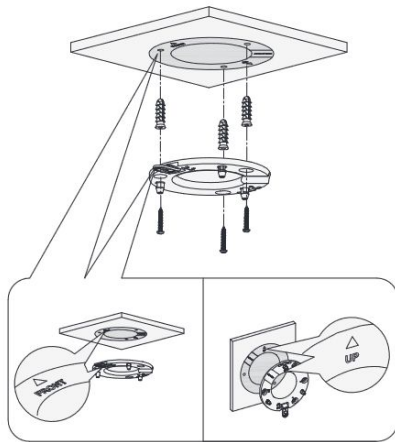

Figure 2-2
Step 2 Install the base mount, lining up with the locking tab position. See Figure 2-2.